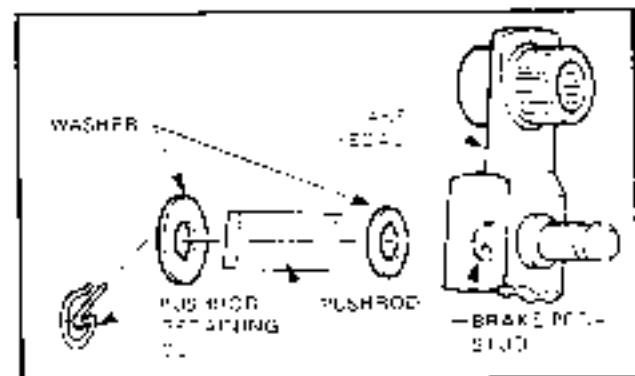

Figure 5-5
8. Remove brake push rod retaining clip and washer from brake pedal and lift push rod off brake pedal stud. (Refer Fig. 5-5).